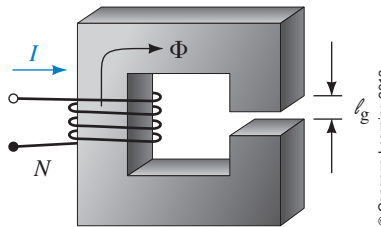

FIGURE 13–32
11. The iron-core inductor of Figure 13–32 has a high-permeability core. Therefore, by Ampere's law, $NI \approx H_g \ell_g$. Because the air gap dominates, saturation does not occur, and the core flux is proportional to the current, that is, the flux linkage equals LI . In addition, since all flux passes through the coil, the flux linkage equals $N\Phi$. By equating the two values of flux linkage and using ideas from Chapter 12, show that the inductance of the coil is